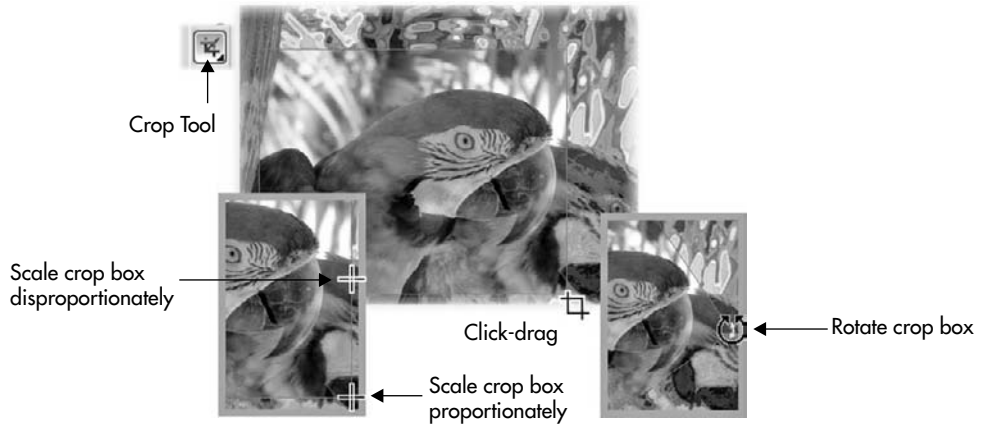

FIGURE 27-1 The Crop Tool eliminates the exterior image areas of your defined crop area.
4. You double-click inside the crop area to finish the crop. Figure 27-1 shows the elements you work with onscreen to crop a bitmap image.